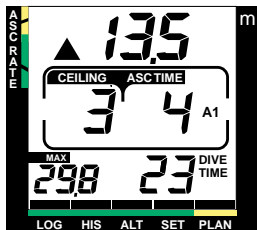

Fig.3.14 DECOMPRESSION DIVE, BELOW THE CEILING ZONE
- the no-decompression dive turns into a decompression dive. One arrow pointing upwards and the ascend warning CEILING/ASC TIME will appear (Fig. 3.14). LUX S model gives also an audible alarm: three single beeps.
When your NO DEC TIME becomes zero, your dive becomes a decompression dive, i.e. you must perform one or several decompression stops on your way to the surface. The NO DEC TIME on your display will be replaced by a flashing notation CEILING/ ASC TIME (Fig. 3.14).
The CEILING/ASC TIME symbol and upwards pointing arrow indicate that you are below the ceiling zone (Fig. 3.14). You should start your ascent immediately.